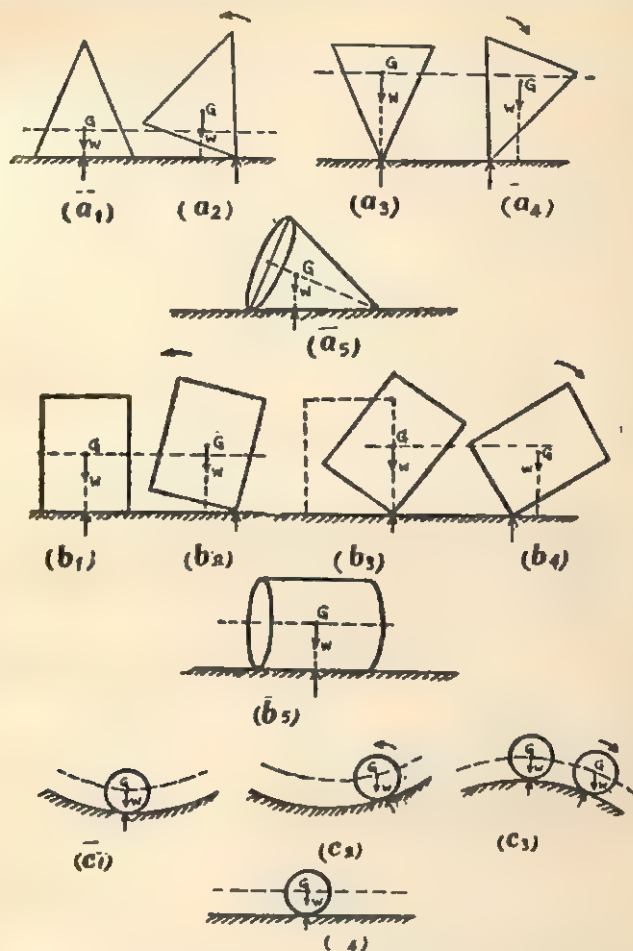

Fig. 2.8. Demonstration of Types of Equilibrium.
**Procedure.** (1) Level the drawing board with the help of the spirit level.
(2) Place the cone, and the cylinder on the drawing board as shown in Fig. 2.8 ( $a_1$ ) and Fig. 2.8 ( $b_1$ ) respectively. Also place the bead on the concave surface of the watch glass as shown in Fig. 2.8 ( $c_1$ ).
(3) Displace, slightly, the cone, the cylinder and the bead one by one from their above positions. Let their displaced positions be shown by Figs. 2.8 ( $a_2$ ), ( $b_2$ ) and ( $c_2$ ) respectively. Now release them. You will observe that all the three come back to their original positions. Therefore the **Equilibrium** represented by Figs. 2.8 ( $a_1$ ), ( $b_1$ ) and ( $c_1$ ) is **Stable**.
(4) Now try to balance the cone with its apex on the drawing board as shown in Fig. 2.8 ( $a_3$ ). You will observe that the cone does not balance in this position and falls on the drawing board. Thus the **Equilibrium** of the cone in this position is **Unstable**. Similarly the equilibrium of the cylinder and the bead as shown in Fig. 2.8 ( $b_3$ ) and ( $c_3$ ) is **Unstable**.
(5) Next put all the three bodies on the board in the positions as shown in Fig. 2.8 ( $a_5$ ), ( $b_5$ ), ( $c_4$ ). Now roll them one by one and then release them. What do you observe? The cone, the cylinder and the bead all the three remain in their new positions. Hence the **Equilibrium** is **Neutral**, i.e., the bodies remain in whatever positions they are kept.
**Explanation.** According to the requisites of equilibrium of rest of a body, as we have discussed in the beginning of this article, the bodies in the positions of Figs. 2.8 ( $a_1$ ), ( $a_3$ ), ( $a_5$ ), ( $b_1$ ), ( $b_3$ ), ( $b_5$ ), ( $c_1$ ), ( $b_2$ ), ( $c_4$ ) are in **Equilibrium**. It is so because in each of these cases no resultant force is acting on them and also there is no resultant moment acting (the C.G. in each case is vertically above the point of contact with the surface).
But we have seen above that the *degree of stability* of these equilibrium is different in these positions. In slightly displaced positions, a moment acts about the point of support or contact which may either bring the body back to its original position [as in Fig. 2.8 ( $a_2$ ),
$(b_2), (c_3)]$  or may turn the body *farther* away from its original position [as in Fig. 2.8  $(a_4), (b_4), (c_3)]$ . In all the cases represented [Fig. 2.8
It may also be noticed that the C.G. is raised in the disturbed positions of the bodies as shown in Fig. 2.8  $(a_2), (b_2), (c_2)$ . It is lowered in the disturbed positions as indicated in Fig. 2.8  $(a_4), (b_4), (c_3)$ . The C.G. is unchanged in the vertical direction for the disturbed positions of the bodies as shown in Fig. 2.8  $(a_5), (b_5), (c_4)$ .
A careful inspection of Fig. 2.8 ( $a_2$ ), ( $b_2$ ) reveals that the equilibrium remains stable so long as the vertical line through the C.G. falls within the base. It may be concluded that the stability of equilibrium of a body is increased by